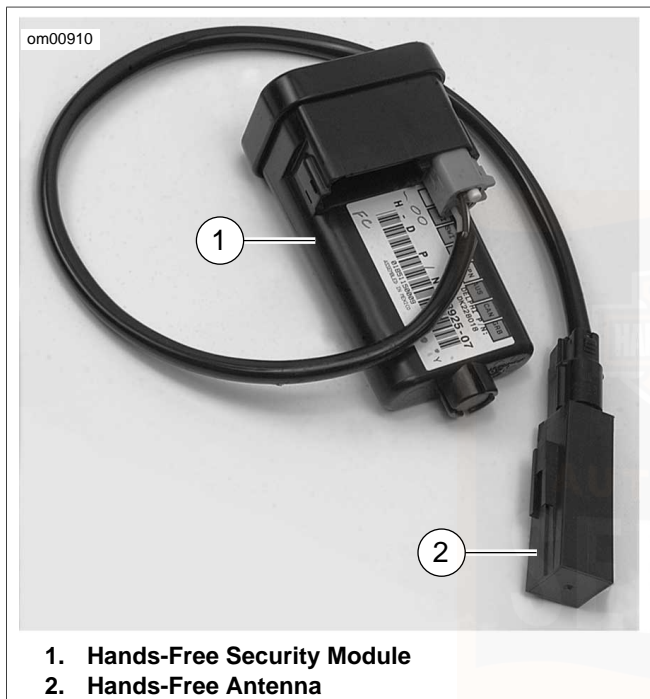

Figure 20. Security Module w/Antenna (shown removed)
See Figure 20. The Harley-Davidson Smart Security System (H-DSSS) consists of a Hands-Free Security Module (HFSM) (1) and a Hands-Free Antenna (2) mounted on the motorcycle, and a Hands-Free Fob **carried** by the rider/passenger.